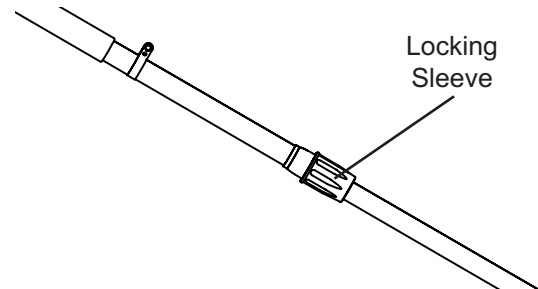

Figure 11
2. After adjusting required length, tighten the locking sleeve. See Figure 11, right.